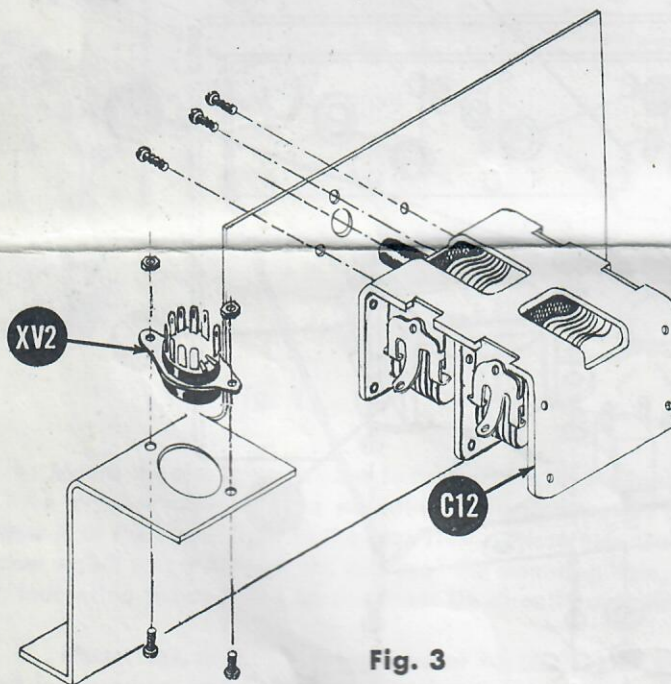

Fig. 3
- () Fig. 3. Mount the tuning capacitor C12 to the sub-assembly bracket using 3 #6-32 X 1/8 screws. To protect during this operation, turn the shaft fully counter-clockwise so that the rotor and stator are fully meshed.
- () Fig. 3. Mount the 9-pin min. socket XV2 on the sub-assembly bracket using 2 #4-40 X 1/4 screws, 2 #4-40 hex r and 2 ground lugs. Orient the socket with the blank (no pin) sector as shown in the drawing.